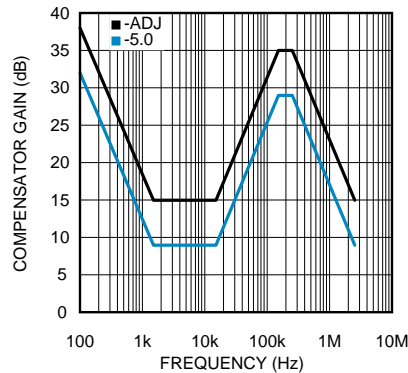

Figure 20. Compensator Gain
The complete transfer function for the regulator loop is found by combining the compensation and power stage transfer functions. The LM22671 has internal type III loop compensation, as detailed in Figure 20. This is the approximate "straight line" function from the FB pin to the input of the PWM modulator. The power stage transfer function consists of a D.C. gain and a second order pole created by the inductor and output capacitor(s). Due to the input voltage feedforward employed in the LM22671, the power stage D.C. gain is fixed at 20dB. The second order pole is characterized by its resonant frequency and its quality factor (Q). For a first pass design, the product of inductance and output capacitance should conform to the following equation: